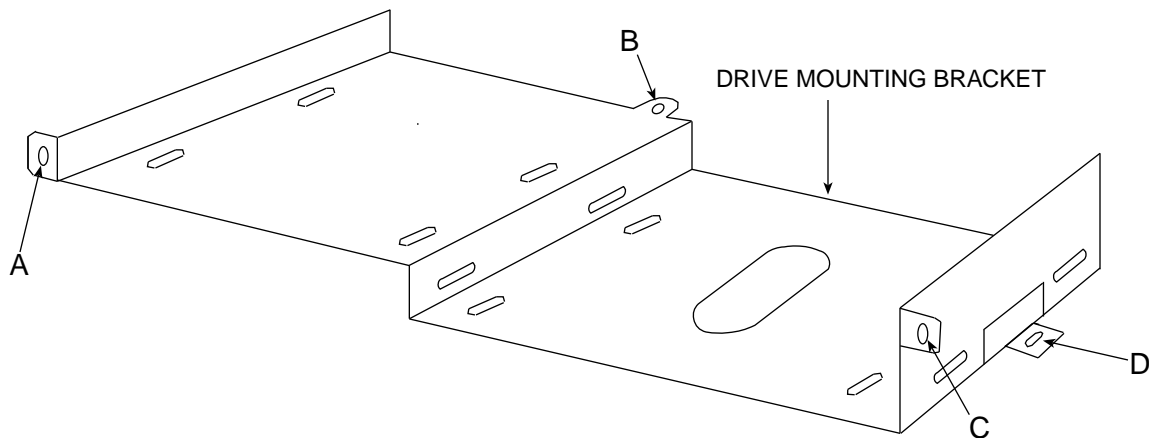

Figure 13 - AM-1400/1600 Drive Mounting Bracket
2. Remove the four screws that hold the drive mounting bracket in place. The bracket is shown in Figure 13—the screws are at positions A, B, C, and D. Remove the mounting bracket from the chassis.